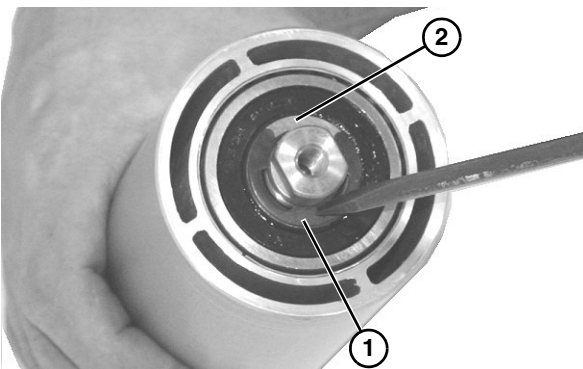

Figure 42
5. Remove the spindle shaft assembly: remove the clip ring (Figure 42, item 1) and washer (Figure 42, item 2) from one side of the spindle assembly.